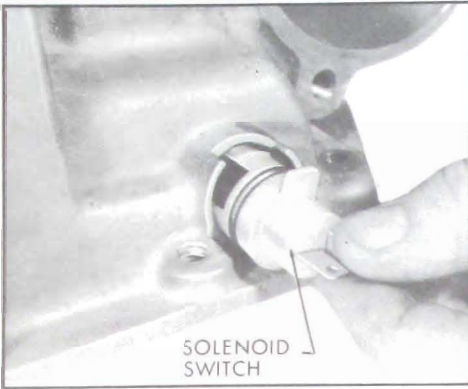

Figure 5-110
3. Remove solenoid switch from case. Inspect switch "O" ring. If nicked, torn or worn replace. See Figure 5-110.